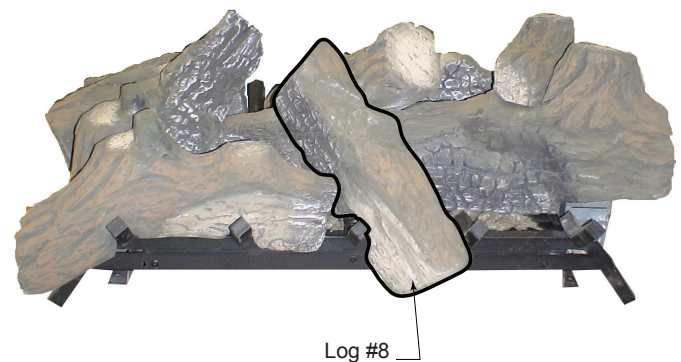

Figure 8 - Place Log #8
- Place log #8 by aligning 'V' notch in bottom of log with the horizontal grate bar between tines as shown in *Figure 24*. Place the rectangular notch on bottom of log onto rectangular protrusion on middle of log #1. *Figure 8*